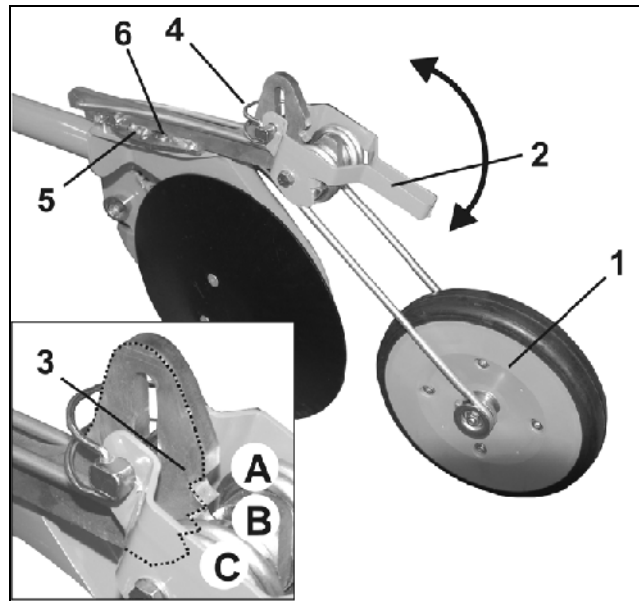

Fig. 21
Adjustment of the pressure of the seed press roller (Fig. 21/1) in three positions.
- To release the locking lever (Fig. 21/2) swivel it upwards.
By toothing the seed press roller (Fig. 21/1) in 3 can be set in 3 positions.
- Swivel the locking lever (Fig. 21/2) upwards to release it.
- Remove the lynch pin (Fig. 21/4) entfernen.